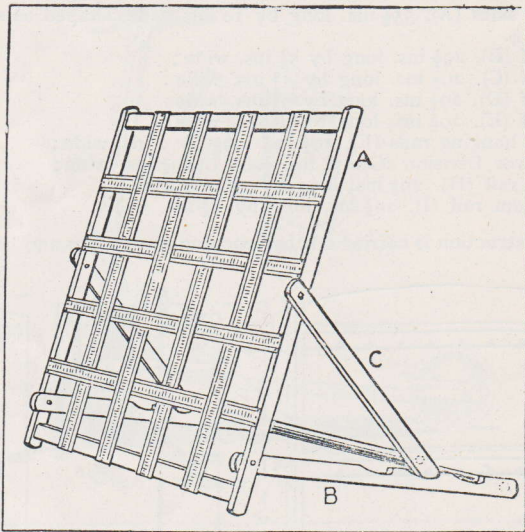
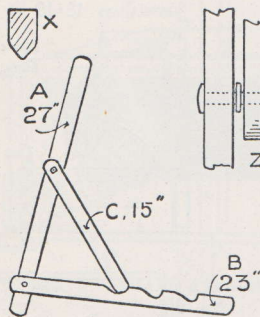
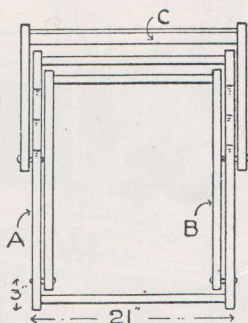

FIG. 1.—FOLDING BED REST.
FIG. 2.
FIG. 3.
rails into the sides (Fig. 4), and tenoning the drawer division into the two lower shelves. The shelves (C) and (D) should have plate slips ploughed into their upper sides (see Fig. 3). The top and bottom rails are rebated into and screwed to the back edges of the sides, and the ply back is rebated into these rails (Fig. 5) and the back edges of the sides.
The bed rest shown in Fig. 1 is made after the style of a folding deck chair, and consists of three frames shown at A, B, C, Fig. 2. Here again the size may be as required, but for the principal framework, A (the actual rest for the back), a length of 27 ins. and a width of 21 ins. are suggested.
The second frame, or rack (B) has two notched rails $1\frac{1}{2}$ ins. by $\frac{7}{8}$ in. joined by a stretcher rail 1 in. by $\frac{7}{8}$ in., tenoned in and wedged. The notched rails (B) are bolted to the main frame (A) about 3 ins. from the foot. The length of B will be about 23 ins.; that is, when folded, the B frame must clear the upper cross rail of the main frame. The distance from the foot of the stile (A) to the centre of the pivoting bolt should not exceed 3 ins., as the rest stands more firmly on the bed if the notched rails (B) are kept low. Iron bolts, $1\frac{1}{4}$ ins. by $\frac{1}{2}$ in. may be used, a washer being placed between the wood parts, as at Z, Fig. 2.
The back support (C) has two pieces, 15 ins. by $1\frac{1}{2}$ ins. by $\frac{7}{8}$ in., and a stretcher rail $1\frac{1}{2}$ ins. by $\frac{7}{8}$ in. The latter is shaped in section as X, Fig. 2, so that it may adequately engage the notches cut in B. The stretcher rail will be tenoned and wedged as before, and, as shown in the plan at Fig. 3, the stretched rail will clear the main frame when the bed rest is folded flat. The C part is bolted in the same way as the rack piece.